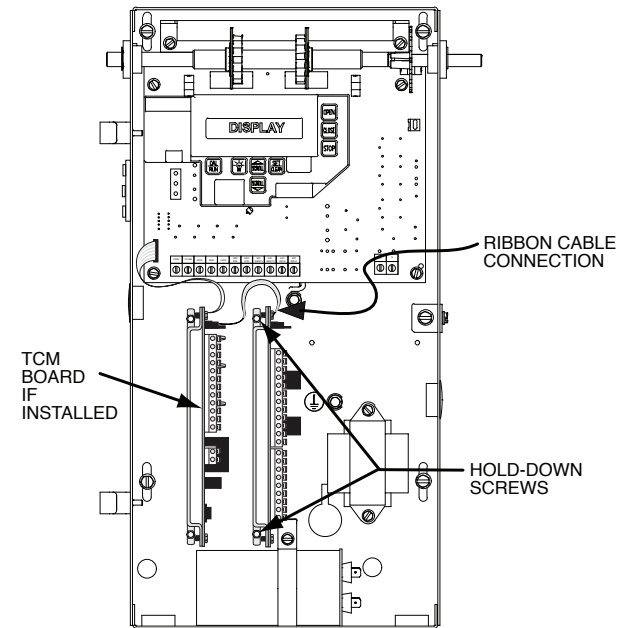
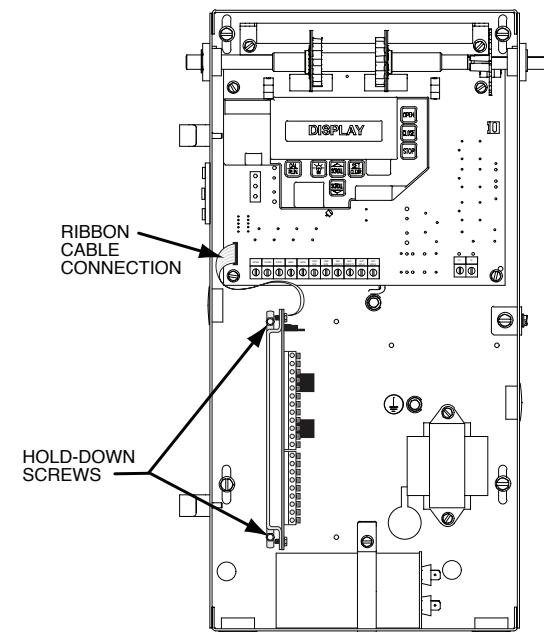

Fig.3A Install AOM w/TCM
Fig.3B Install AOM
- Connect ribbon cable to TCM (if Timer Close Module is installed) (**Fig. 3A**) or to operator Main Control Board (**Fig. 3B**) if TCM is not installed.